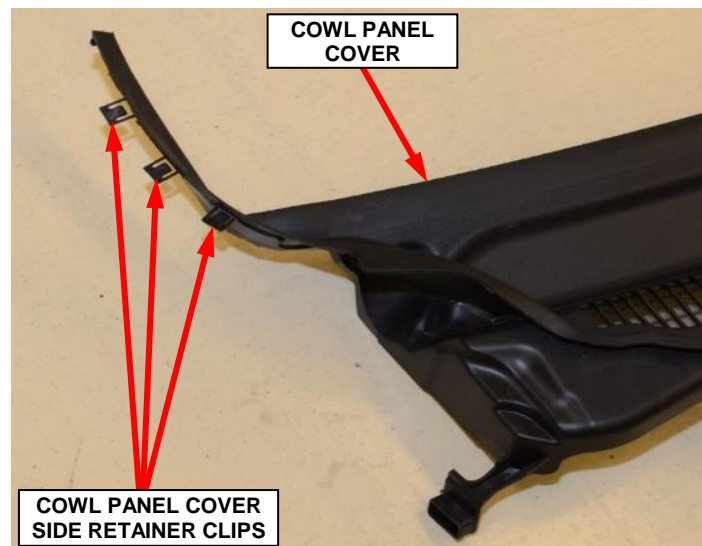

Figure 5 – Cowl Panel Cover Clips
7. Release the side retainer clips and the side seals securing the cowl panel cover (Figure 5).
CAUTION: There are three retainer clips on each end of the cowl panel cover. Use care not to break them during removal (Figure 5).